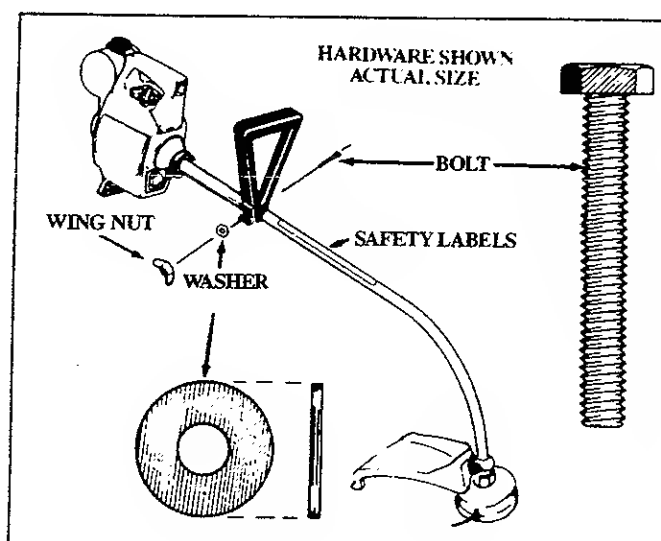

Figure 5
4. ASSIST HANDLE ~ Figure 5
- Hold the Assist Handle and with the hollow side facing the Engine so it is aligned between the Engine and the Safety Label on the Drive Shaft Housing. Figure 5.
- Firmly push the Assist Handle over the Drive Shaft Housing. Figure 5.
- Install the Washer and Wing Nut. Figure 5.